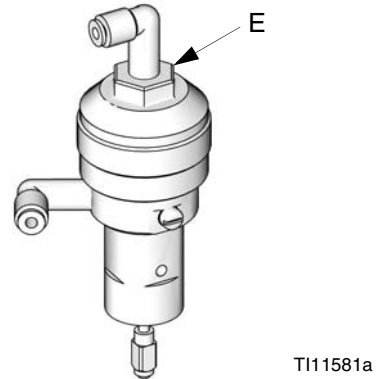

FIG. 20. Valve Adjustment
Dose valves and purge valves are factory set with the hex nut 1-1/4 turns out from fully closed. This setting limits maximum fluid flow rate into integrator and minimizes valve response time. To open dose or purge valves (for high viscosity materials), turn hex nut (E) *counterclockwise*. To close dose or purge valves (for low viscosity materials), turn *clockwise*. See FIG. 20.